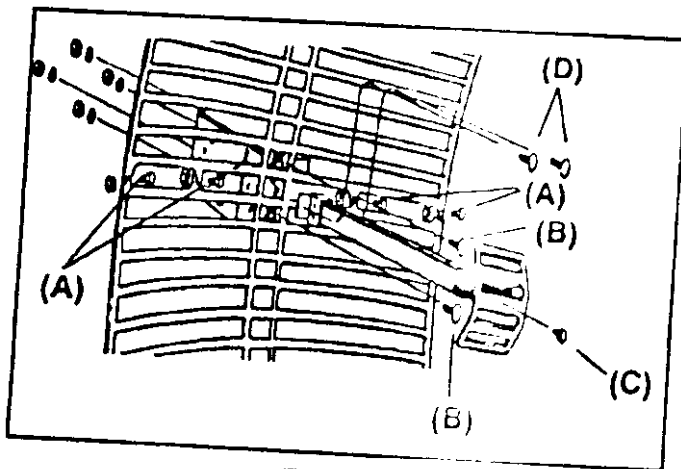

Figure 1
1. Assemble the two halves inserting the 4 #8-32 machine screws (A) through the front. Secure with the keps nuts on the back. (figure 1)
2. Place the sub-reflector on the front of the feed and secure with the #6 x 1/2" stainless screw. (figure 1)
6. Pull the coax through the antenna and the "L" bracket opening. Secure the feed on the front with two carriage bolts (D) (figure 1). Secure the feed on the back with the lock washers and nuts. (figure 1)